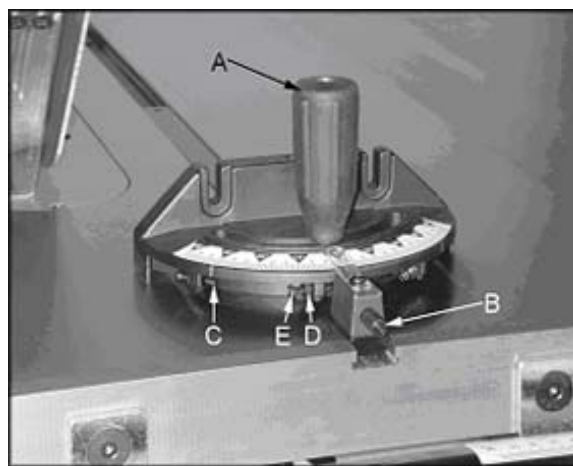

Figure 23
1. Slide the miter gauge bar into the miter gauge slot in table. Loosen the handle (A, Figure 23) and pull out indexing rod (B, Figure 23) to pivot the miter gauge body.
2. Push the indexing rod in to engage the preset stops (C, Figure 23).
3. Adjust stops by loosening the hex nut (D, Figure 23) and adjusting screw (E, Figure 23).